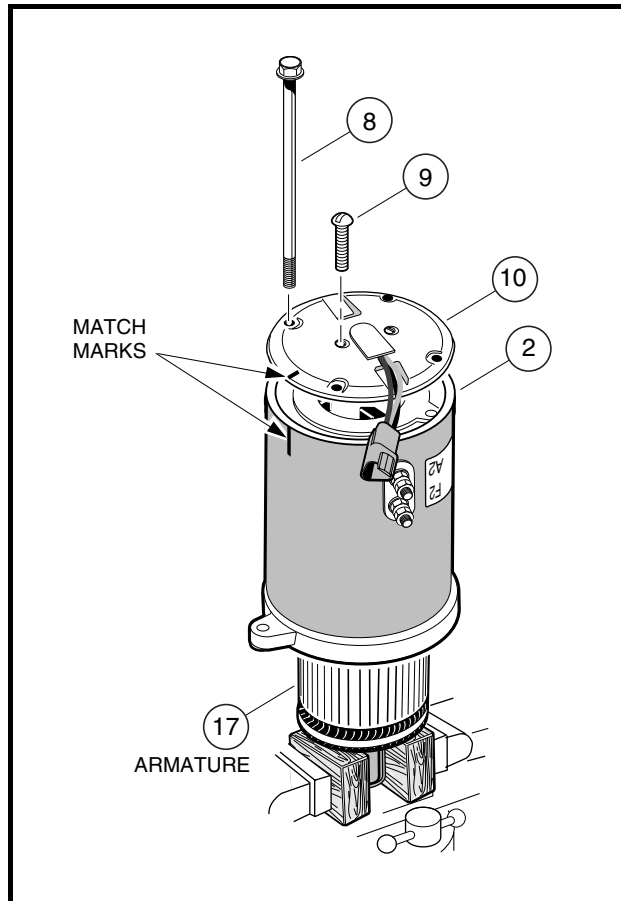

Figure 15-5 Motor Disassembly
1. Before beginning disassembly, place match marks on the motor end shield and stator shell, then place the motor in a vice with wooden blocks as shown (**Figure 15-5, Page 15-5**).
2. Remove the four bolts (8) securing the end shield (10) to the stator shell (2) (**Figure 15-5, Page 15-5**).
3. Remove the two screws (9) attaching the end shield to the bearing retainer (**Figure 15-5, Page 15-5**).
4. Slide the armature (17) out of the opposite end of the stator shell (**Figure 15-5, Page 15-5**).